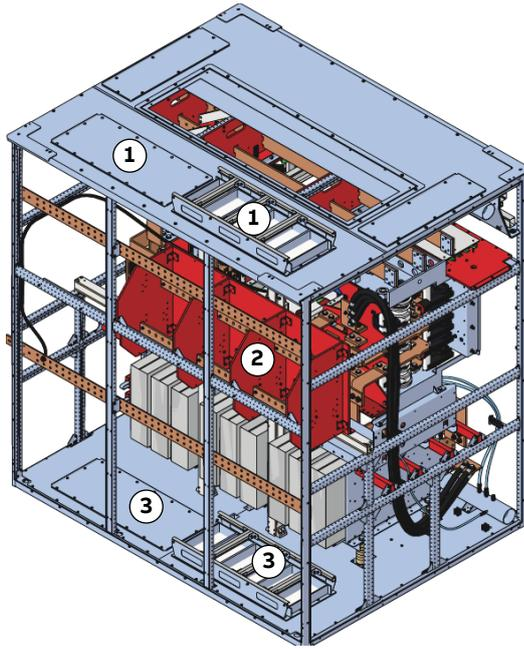

Figure 6-16 PCU 36-pulse top and bottom entry (back view)
- Transformer cables to the busbars inside the primary PCU (Fig. 6-16)